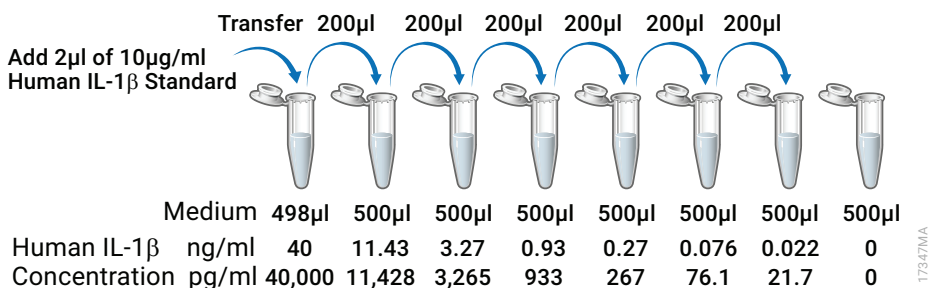

Figure 3. Human IL- β 1 dilution series.
3. Prepare an initial concentration of 40ng/ml human IL-1 β by diluting Human IL-1 β Standard (10 μ g/ml) 1:250 in cell culture medium (typically HEPES-containing RPMI 1640 + 10% heat-inactivated FBS for human cells). For example, prepare 500 μ l of 40ng/ml human IL-1 β by adding 2 μ l of the Human IL-1 β Standard stock to 498 μ l of culture medium (see Figure 3).
3. Prepare an initial concentration of 40ng/ml human IL-1 β by diluting Human IL-1 β Standard (10 μ g/ml) 1:250 in cell culture medium (typically HEPES-containing RPMI 1640 + 10% heat-inactivated FBS for human cells). For example, prepare 500 μ l of 40ng/ml human IL-1 β by adding 2 μ l of the Human IL-1 β Standard stock to 498 μ l of culture medium. (See Figure 3.)